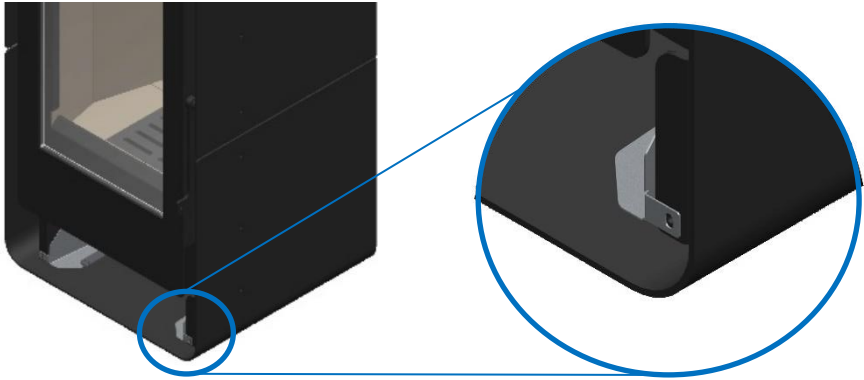

Figure 49 - Fixing the ventilation kit to the Tek Round Eco stove
* Subsequently, place the ventilation kit on the equipment making the drilling match that of the stove (Figure 49);